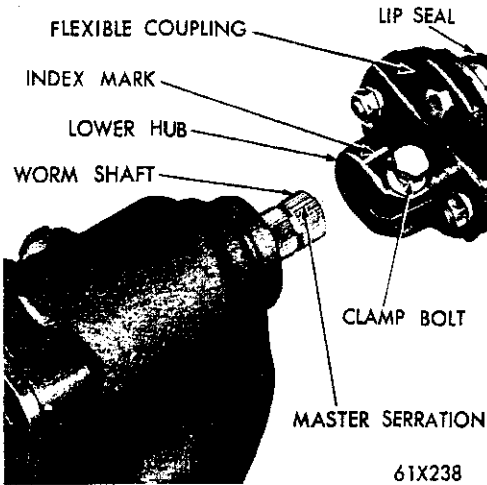

Fig. 14—Aligning the Steering Gear with Flexible Coupling
(2) Locate the master spline in the outer row of serrations on the worm shaft. Mark the master spline.
(3) Enter the steering gear into the engine compartment.
(4) Align the index mark on the outside of the flexible coupling hub with the master spline on the steering worm shaft (Fig. 14).
(5) Slide the coupling on the worm shaft and install the gear housing to frame side rail attaching the bolts and nuts.
(6) Tighten the steering gear housing to frame bolts evenly to 50 foot-pounds torque.